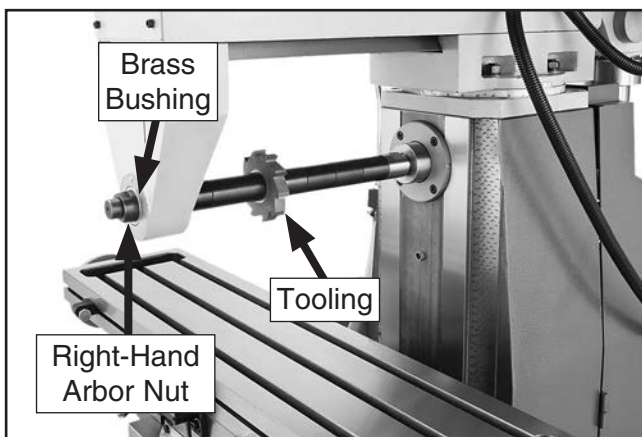

Figure 31. Horizontal arbor and cutter installed.
11. Install cutter(s) and spacers on arbor in such a way that last spacer is inside brass bushing and arbor threads are fully exposed as you slide arbor support back onto ram dovetail ways (see **Figure 31**).
13. Secure arbor assembly with right-hand arbor nut (see **Figure 31**).